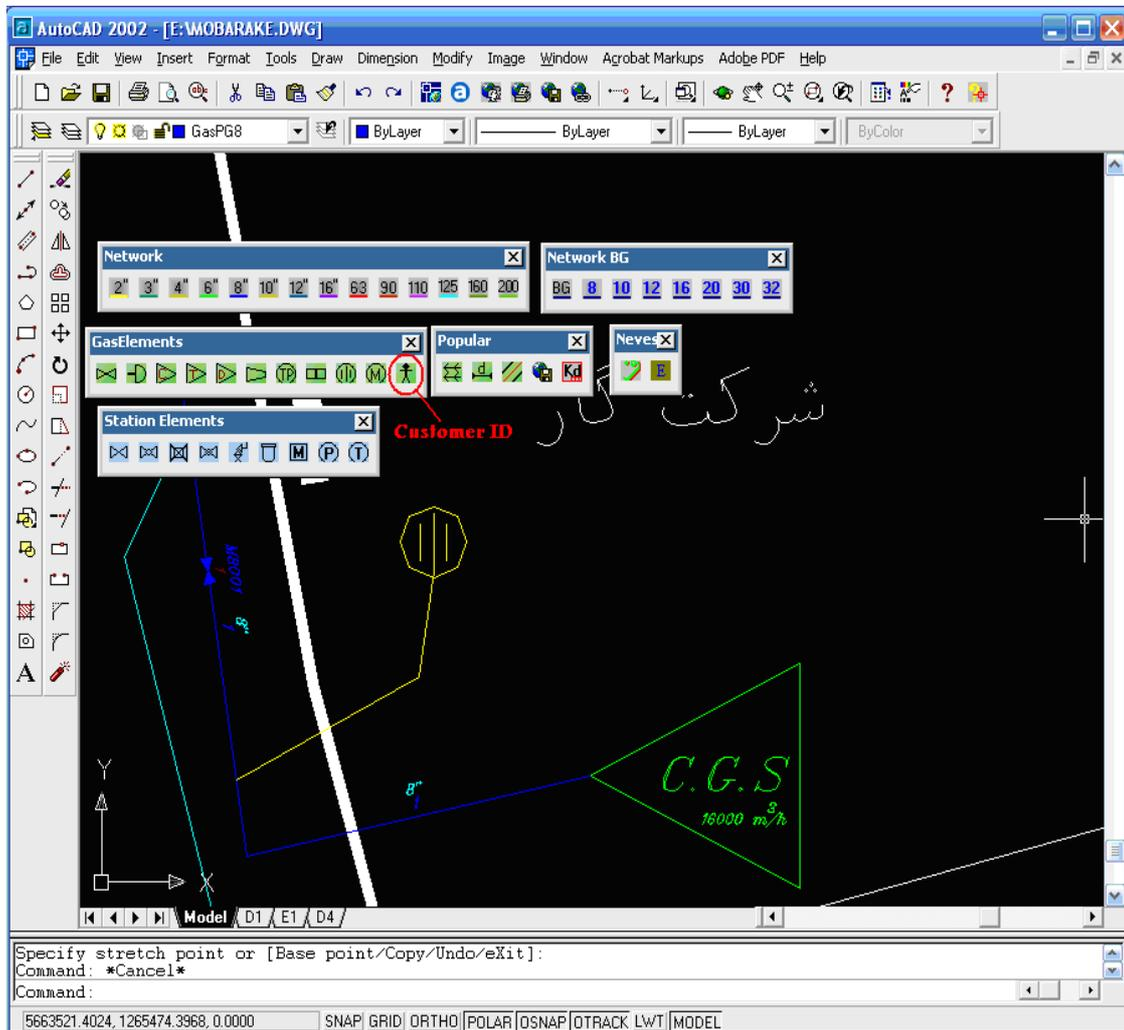

Figure 15
By using "TF", "TP", "RD", "DRS", "TBS", "CGS" icons, respective blocks are placed in the requested point. Then block's information is written in it. For example after inserting a CGS gas station, number and capacity or any other characteristics of the station are asked from the operator and are written in CGS block as figure 15. **Customer icon**, writes the customer ID in the map. This is good for tracking gas line and find related valve (or valves) and with closing valve (or looped valves), the customer has no gas and repairing is done. (Figure 15)
- Figure 15 : Customer registration.